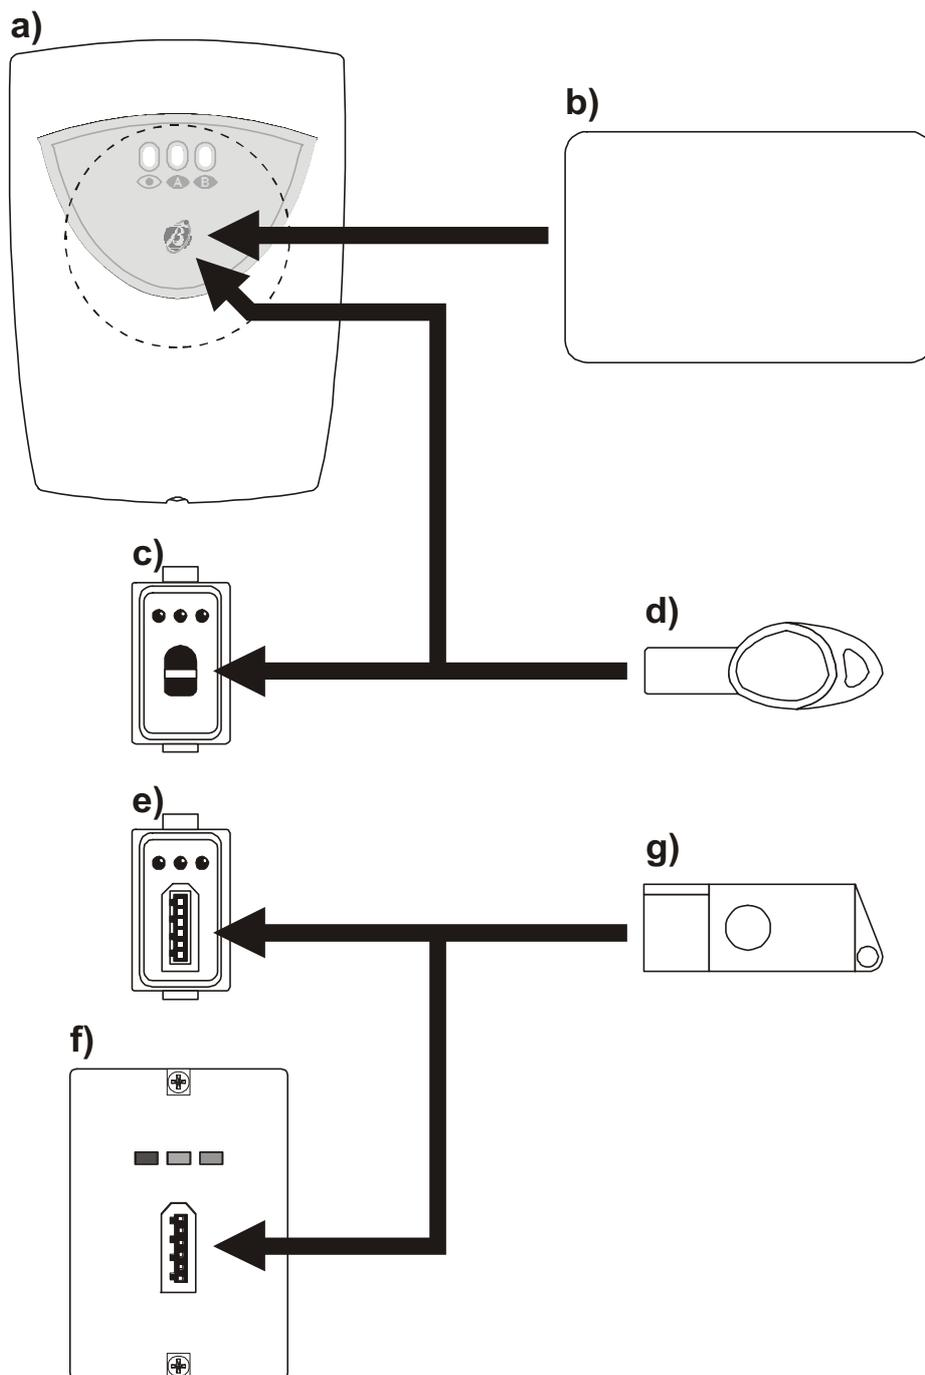

Figure 2
Keys/Cards The Omnia system supports 250 Keys/Cards (see Figure 2), and an unlimited number of clones of key/card 250. Each key/card can be programmed with specific attributes, and can be enabled on selected partitions, as per Customer requirements.
- Hold the **PROXI** Card in the vicinity of the sensitive field of the **PROXI** Reader (see dashed circle **a**) in Figure 2).